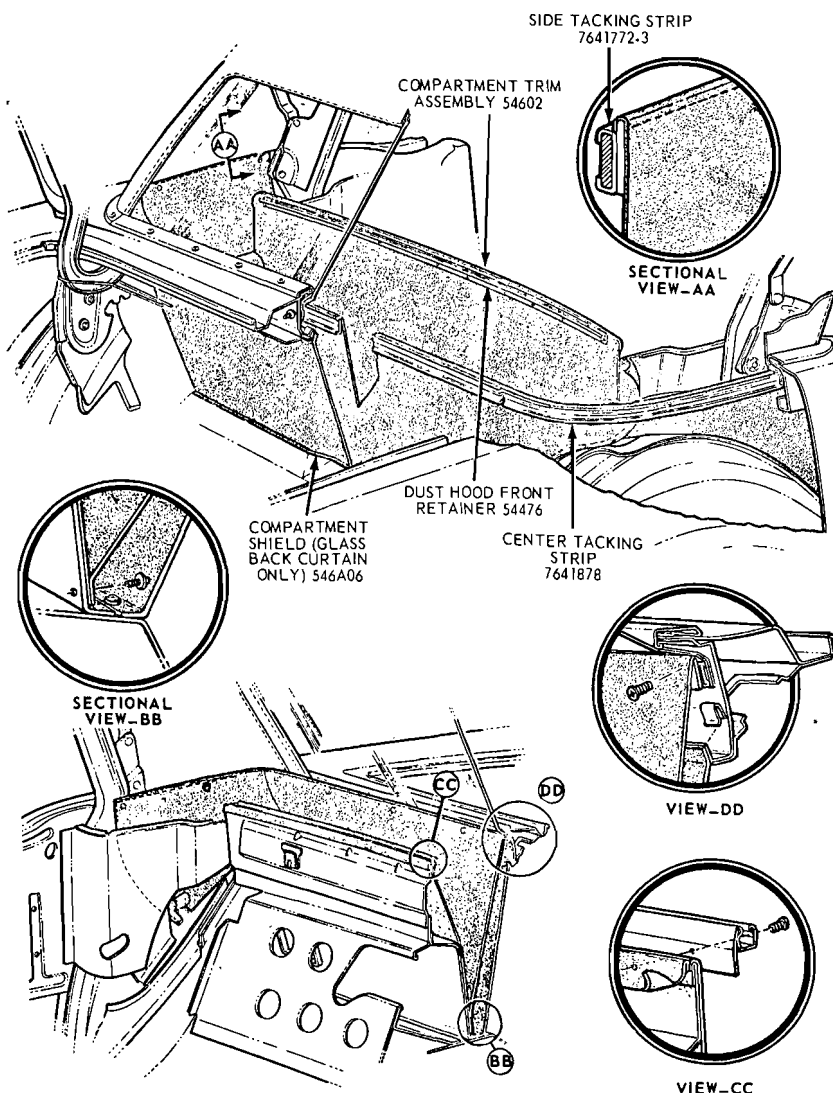

FIG. 10—Back Curtain Installation—Mustang
4. Remove 5 screws attaching the top compartment trim to the rear seat and remove the compartment trim tension springs (Fig. 10).
7. Remove 3 screws retaining the top compartment trim to the belt front side tacking strip on each side. Remove 5 screws retaining the compartment trim to the seat back (Fig. 10). Remove the top compartment trim tension springs.